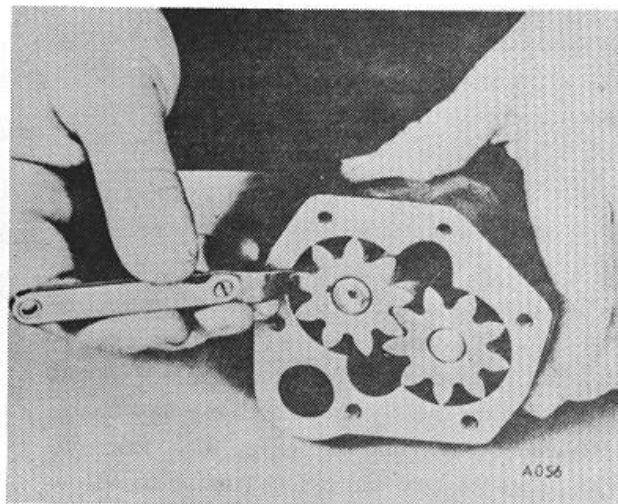

Figure 55.
2. Examine the pick-up screen for clogging or damage. Remove the cover. Be careful not to damage the lead gasket which acts as a spacer as well as a gasket. Examine the gears and pump body for any sign of wear indicating lack of clearance. The gears should have from .001" to .003" clearance in the chamber and should make no contact with the walls. (Fig. 55) Inspect the gear, cover and faces for excessive wear or scoring. With the gasket assembled in the body, there should be .0015" - .006" clearance between the gears and the cover. Worn or scored gears and a worn cover may be replaced. If the body shows wear in the chamber, it can be replaced, but complete pump replacement would be more economical.